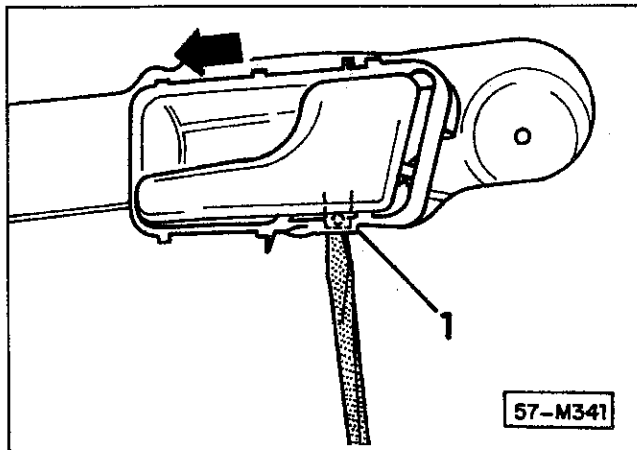

Fig. 13. Remove door release housing by releasing locking tab (1) and sliding housing forward (arrow). If necessary, unhook link rod from release mechanism.
2. Remove inside door release housing. See Fig. 13.